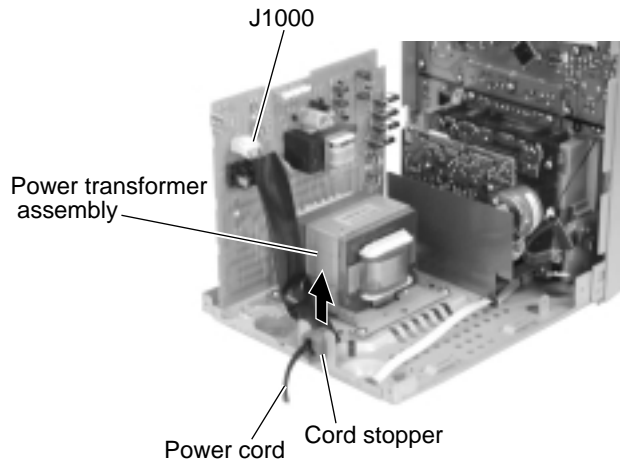

Fig.22
■Removing the power transformer assembly (See Fig.22 and 23)